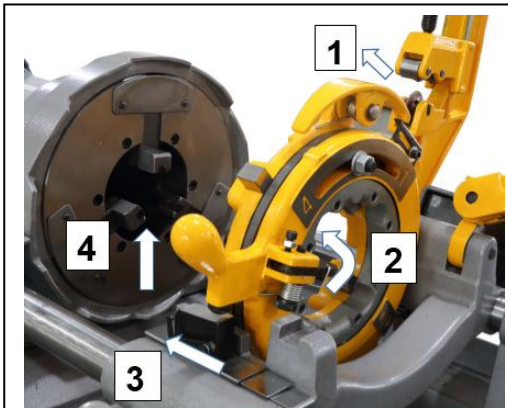

Fig 4
4. Release foot IN. (Figure 4)
5. Sine Bar should be IN (unlatched). (Figures 4)
6. With die head in DOWN position, push UP on cam locking plate handle (Figure 4, Step 4) until release foot latches in die head body.